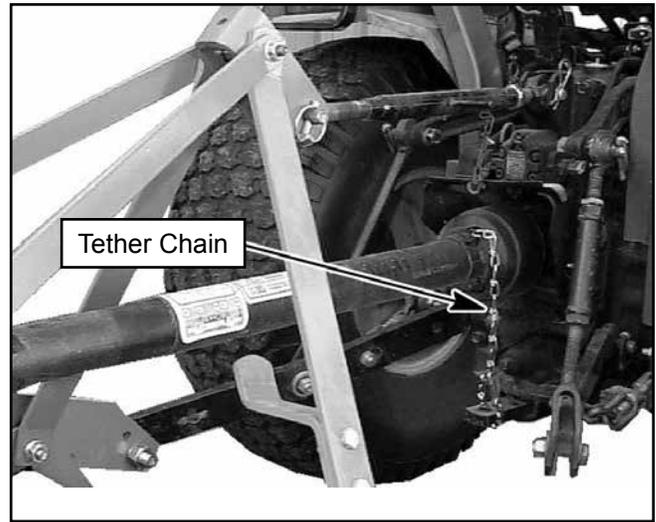

Figure 3. Attach Mower to Tractor
4. Attach tether chain to tractor drawbar if drive equipped with chain, (Figure 3).